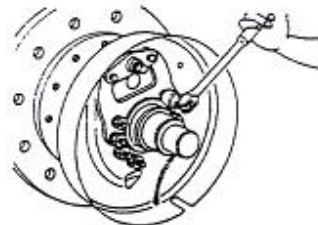

Figure 2-21
(6) Remove the E-shaped retaining ring used for fixing the brake cable on the brake backing plate. Then remove the mounting bolt on the brake backing plate and dismount the brake backing plate from the drive axle. See figure 2-21